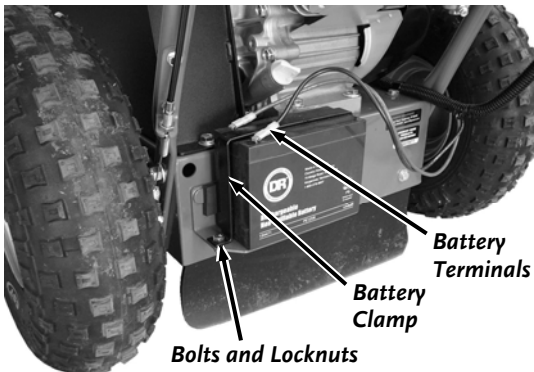

Figure 47
1. Disconnect the Battery Terminals (**Figure 47**).